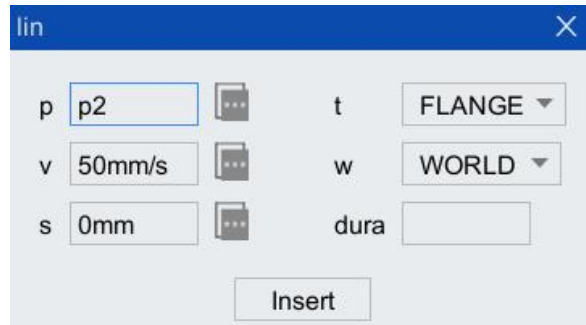

Figure 5-20 "lin" Instruction configuration interface
Step1. Click " " icon in the toolbar of the program editor to pop up "lin" instruction box, as shown in Figure 5-20.
Step5. Click "Insert" button in Figure 5-20 to pop up "Are you need to create the variable \*\*\*" dialog box. Click <Yes> button, and then the instruction will be inserted successfully.